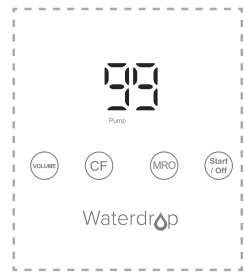

Figure 1.5
**Step 6:** After the water change is complete, the machine starts to filter water. It enters the 99-second countdown state. No filtered water is available during this time.[Figure 1.5]